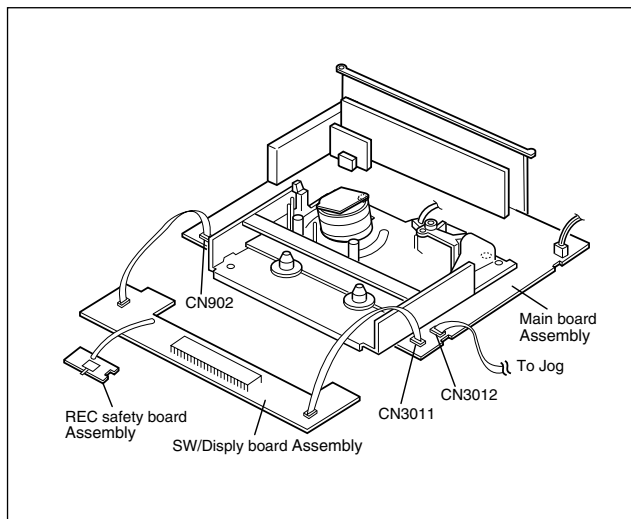

Fig. 1-4-3
- (8) Place the SW/Display board assembly and REC safety board assembly on the front side and left side of the Mechanism and Main board assemblies which was removed at the step (6), then connect the flat wires into CN3011 and CN902 of the Main board assembly. (Refer to Fig. 1-4-3.)
### 1.4.3 Cassette loading and ejection methods in the "SERVICE POSITION"(See Fig. 1-4-3).
- (1) Insert a cassette halfway in the Cassette holder assembly.
- (2) Set the switch on the REC safety board assembly to ON (by pressing the switch).
- (3) As soon as the cassette starts to be loaded, set the switch on the REC safety board assembly to OFF (by releasing the switch).
- (4) Now the desired operation (recording, playback, fast forward, rewind, etc.) is possible in this status (the status shown in Fig.1-4-3).
- **When performing diagnostics of the tape playback or the recording condition in the "SERVICE POSITION", enter the desired mode before turning the set upside down, and do not change the mode when performing diagnostics while the set is placed upside down. If you want to switch the mode, turn the set to the normal position (the status shown in Fig.1-4-3).**
- (5) The switch on the REC safety board assembly does not have to be operated when ejecting a tape. But be sure to turn the set to the normal position before ejecting the tape.